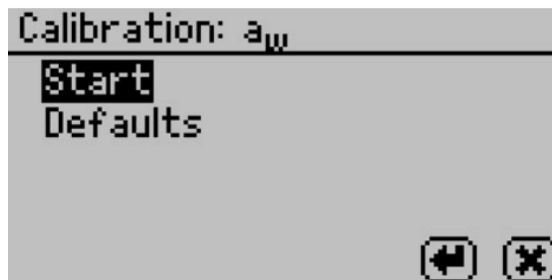

Figure 30 Start calibration
4. Select **Start** (Figure 30).